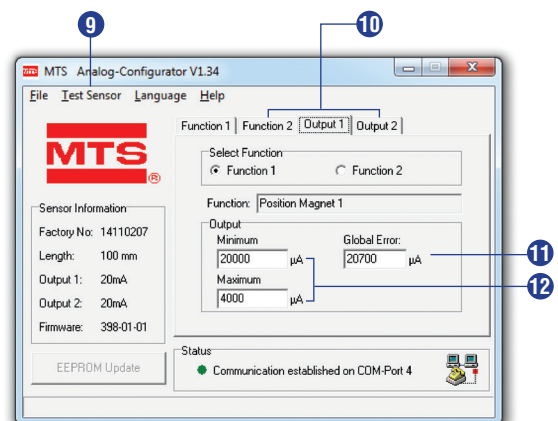

Fig. 33: Example of tab controls
- 12 Thereby, field **Output Minimum** indicates the current value which should be output at the starting point of the selected function. The output value pertaining to the end point must be specified in field **Output Maximum** (fig. 33).